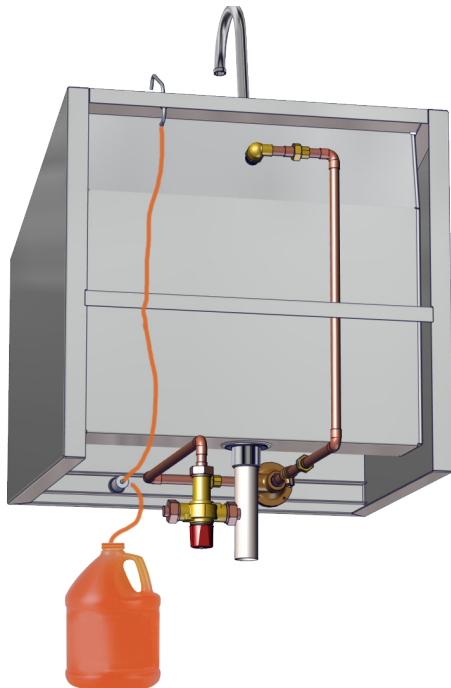
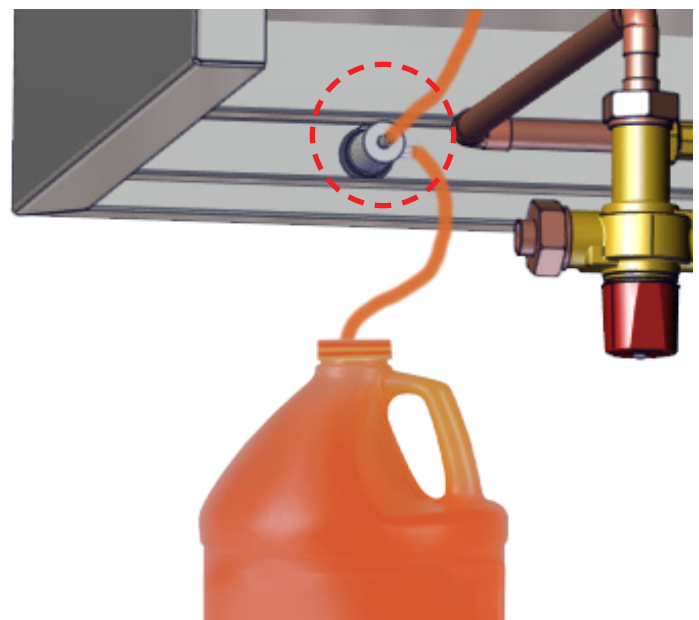

Fig. 6: Install soap dispenser tubing
Fig. 7: Close-up of soap pump with tubing attached
4. Attach the soap tubing to the spout and soap pump (circled in red) as shown in Fig. 6 and Fig. 7.